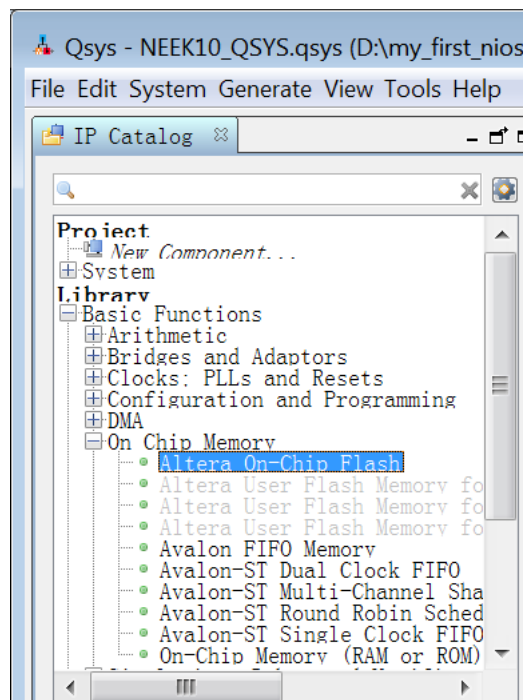
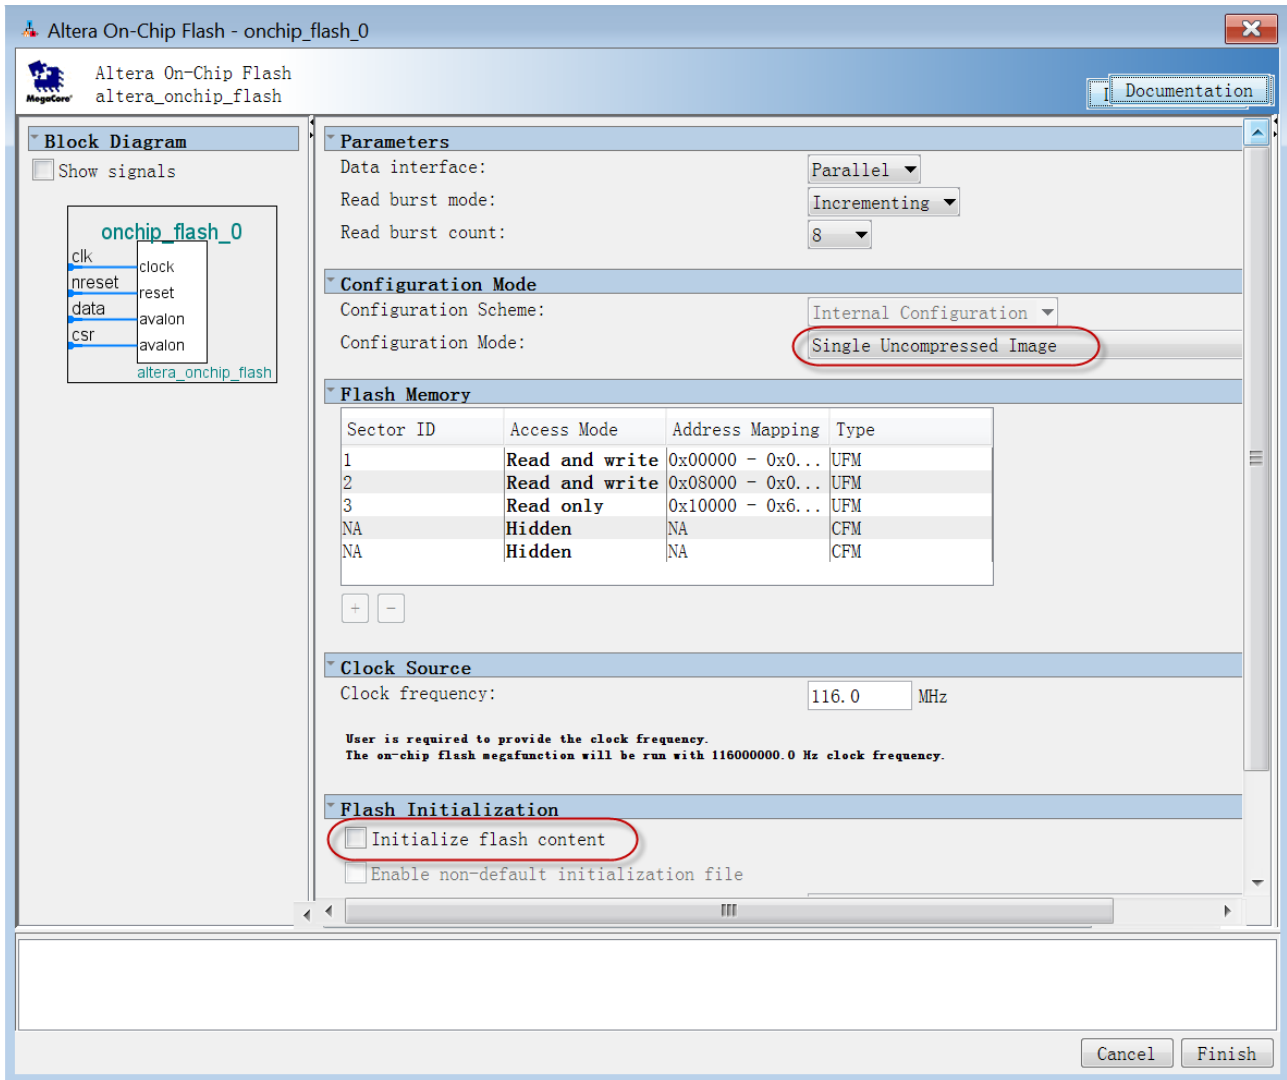

Figure 3-1 Add Altera On-Chip Flash in Qsys
Figure 3-2 Settings of Altera On-Chip Flash
1. Choose **Library -> Basic Functions-> On Chip Memory ->Altera On-Chip Flash**, as shown in **Figure 3-1**. Set Configuration Mode to Single Uncompressed Image and make sure the Initialize flash content option is left unchecked, as shown in **Figure 3-2**. Click Finish.